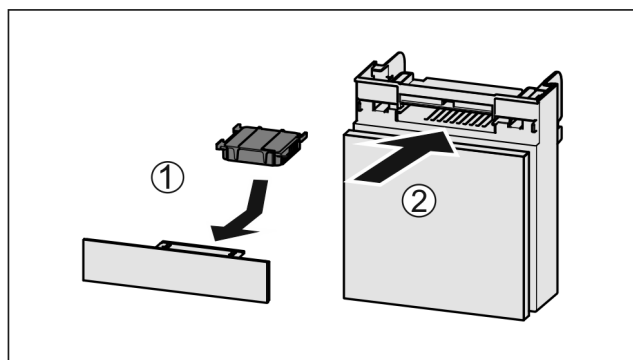

Fig. 96
- Insert the carbon filter as shown in the diagram Fig. 96 (1).
- Push the compartment in Fig. 96 (2).